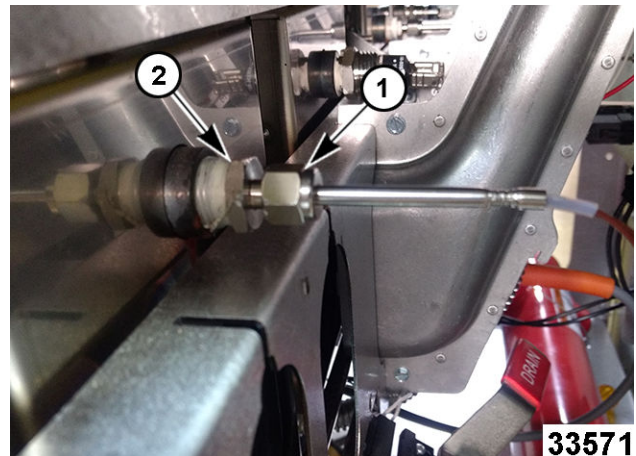

Fig. 57
4. Loosen packing nut (1, Fig. 57).
5. Remove mounting nut (2, Fig. 57).
9. Tighten mounting nut (2, Fig. 57).
10. Tighten packing nut (1, Fig. 57).